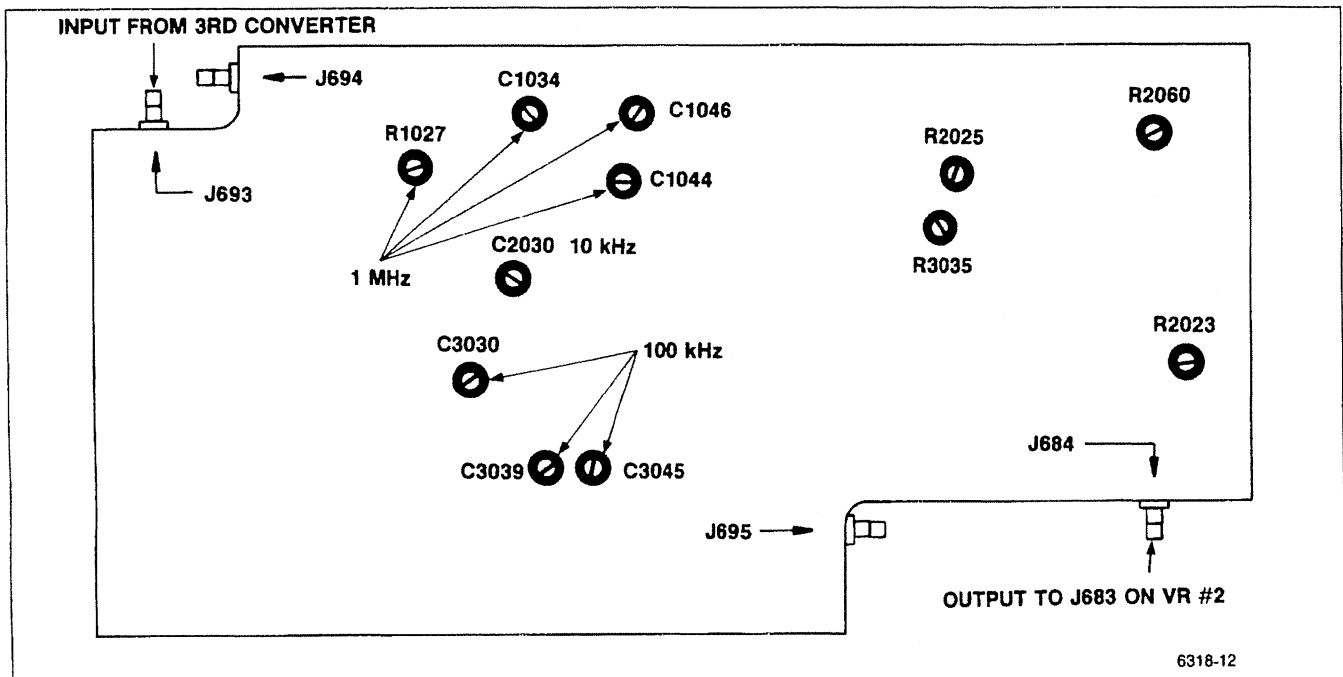
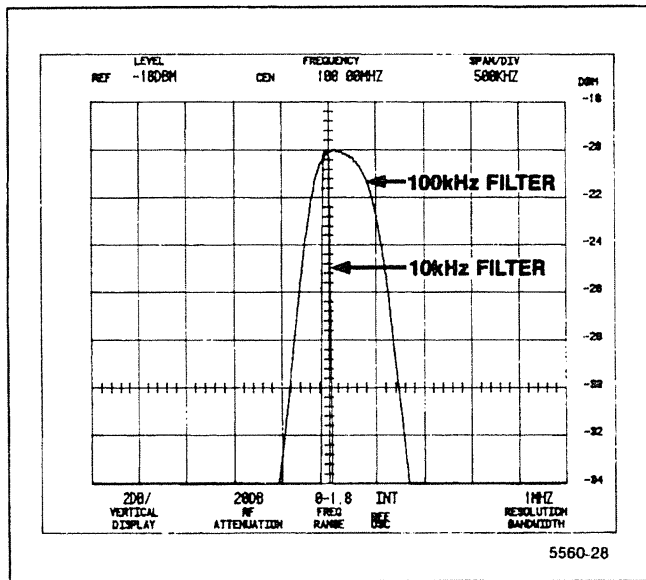
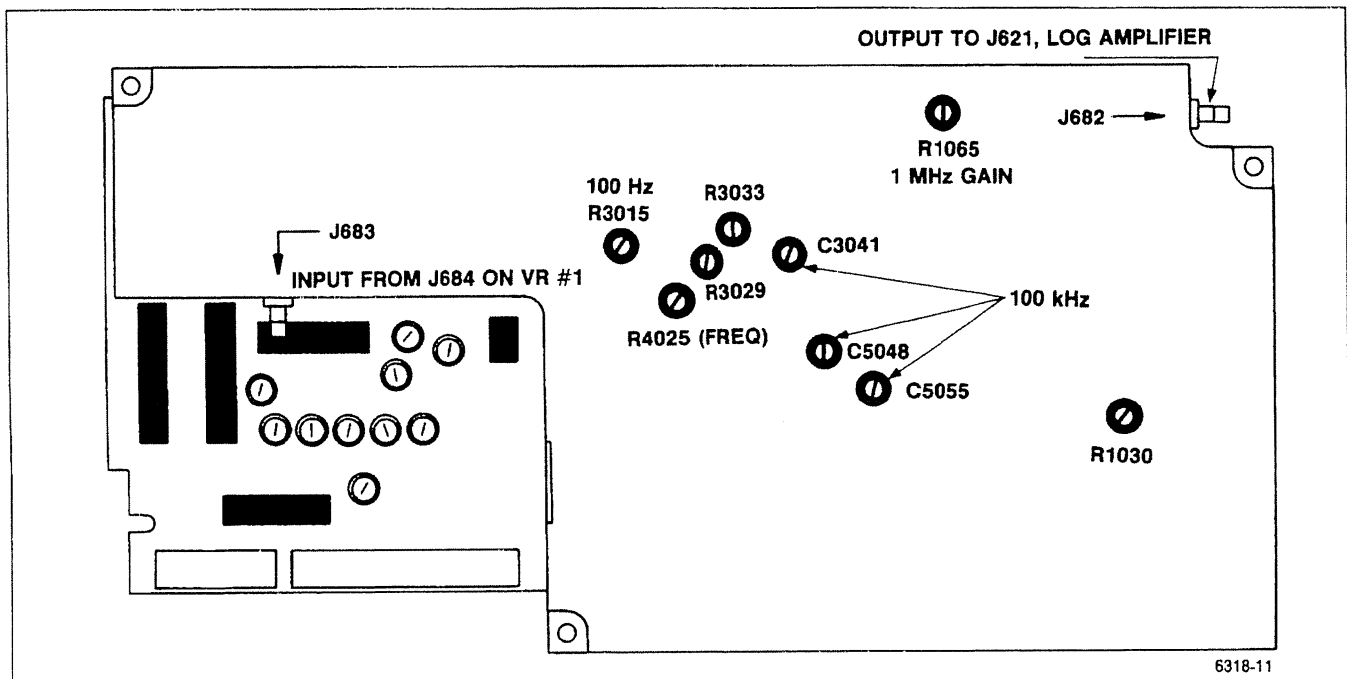

Figure 5-15. Adjustments on the rear of the Variable Resolution module.
Figure 5-16. 100 kHz over 10 kHz filter response.
Figure 5-17. Adjustments on the front of the Variable Resolution module.
d. Adjust the four tuning screws (capacitors) on the 110 MHz Bandpass Filter (FL36) for the best 3 MHz filter response (3 MHz bandwidth ± 600 kHz, 6 dB down) that is centered about the 10 kHz reference. Refer to Figure 5-16.
f. Adjust C1034, C1044, and C1046, and R1027 on the VR 2nd Filter Select board (Figure 5-15) for the best 1 MHz filter response (1 MHz bandwidth, 3 dB down, that is centered about the 10 kHz reference). Refer to Figure 5-16.
h. Adjust C5055, C5048, and C3041 on the VR 2nd Filter Select board (Figure 5-17) for the best 100 kHz filter response (100 kHz bandwidth, 3 dB down, that is centered about the 10 kHz reference). Refer to Figure 5-16.
- (4) Adjust R4025 on the VR 2nd Filter Select board (Figure 5-17) for maximum signal amplitude.
(29) Press RECALL SETTINGS 2.
(30) Adjust C4060 in the 10 Hz/100 Hz Bandpass Filter assembly for best symmetry.
(31) Repeat parts 28 through 31 to eliminate interaction.
(32) Remove all jumpers from the 10 Hz/100 Hz Bandpass Filter assembly.
o. Adjust C2030 (Figure 5-15) for the best 10 kHz response centered about the 1 kHz reference.
r. Adjust C3045, C3039, and C3030 (Figure 5-15) for the best 100 kHz response centered about the 10 kHz filter reference.
(1) Remove the cover for the VR 2nd Filter Select board. Disconnect the jumper connector to the input of the Post VR Amplifier (pin JJ).
(2) Apply a 10 MHz, -14 dBm signal, from a 50 Ω signal source, to pin JJ of the amplifier.
(3) Adjust Post VR Gain R1030 (Figure 5-17) on the Post VR Amplifier board for a full screen display.
(4) Remove the signal from the input to the Post VR Amplifier and replace the jumper connector to pins JJ at the input to the Post VR Amplifier. Replace the cover for the VR 2nd Filter Select board.
e. Disconnect P693 (Figure 5-17) and activate MIN NOISE. Apply a 10 MHz, -25 dBm signal, from the signal generator, through a bnc-to-Sealectro adapter to J693. Set the generator frequency to peak the signal amplitude. (Signal amplitude should be between 3.5 and 6.5 divisions. If signal amplitude is not within these limits it indicates a gain problem in the Variable Resolution module.)
h. Switch MIN NOISE off, decrease the generator output to -35 dBm, leave the REF LEVEL at -20 dBm, and adjust the 10 dB Gain R3035, on the 10 dB Gain board (Figure 5-17) so the signal amplitude is 7 divisions.
i. Change the generator output to -45 dBm, the REF LEVEL to -40 dBm, and adjust the 20 dB Gain R2023 on the 20 dB Gain Step board (Figure 5-17) for a 7 division signal amplitude.
j. Change the generator output to -65 dBm, the REF LEVEL to -60 dBm, and adjust the 10 dB Gain R2060 on the 20 dB Gain Step board (Figure 5-17) for a 7 division signal amplitude.